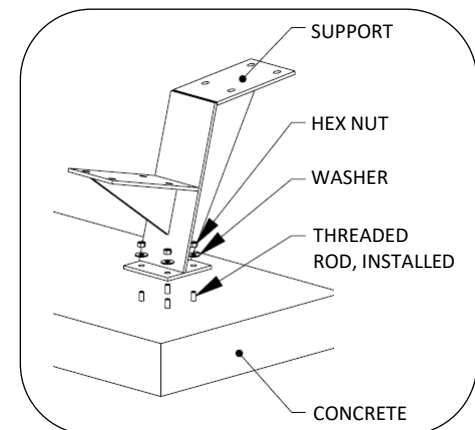

Fig. 6 – Install supports
6. Install supports over threaded rods, using washers and hex nuts as shown in Fig. 6.